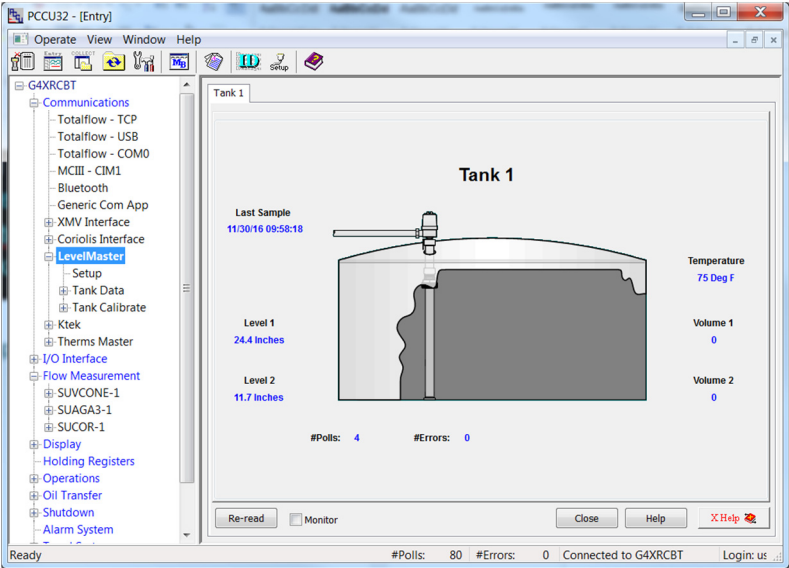

Figure 19: Verify sensor measurements from PCCU
4. Select the tank tab. For example Tank1 tab. The tank measurements, sample time stamp, poll and error counts should display (Figure 19).